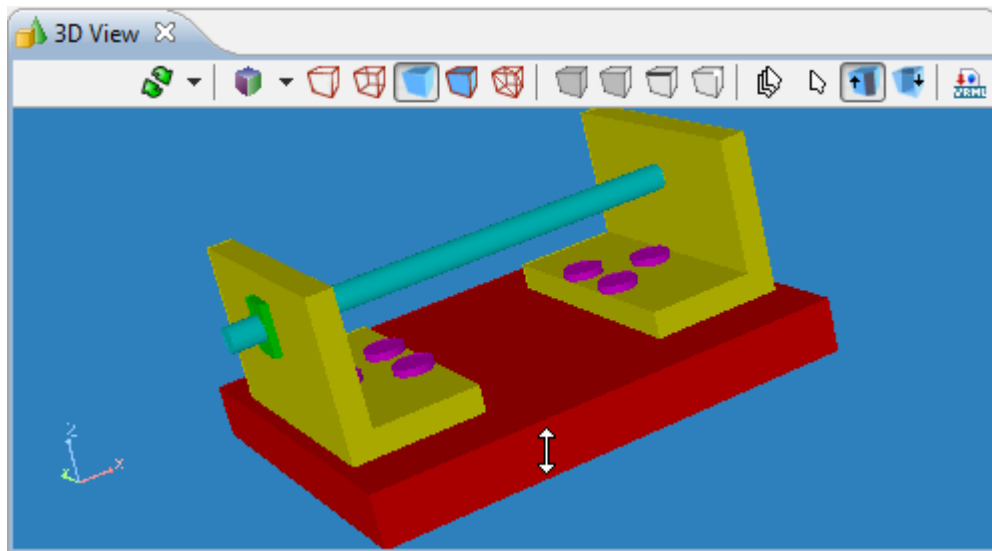

Figure 1. Clip front mode turned *On*, north-south cursor type
- Click  button to turn **On Clip front Mode**. The north - south cursor type appears (see Figure 1).